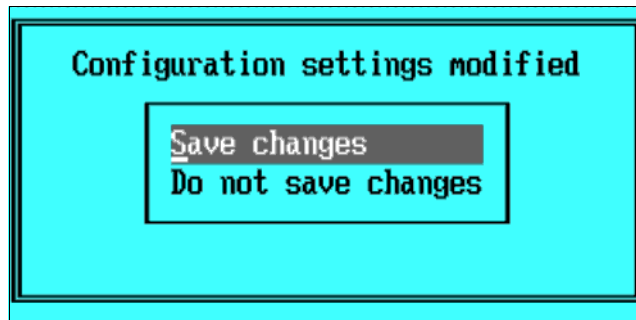

Figure 6-15 Save configuration setting changes
10. Press Esc to go back. As configuration settings have been modified, it will prompt you to **Save changes**. Press Enter to save, as shown in Figure 6-15.